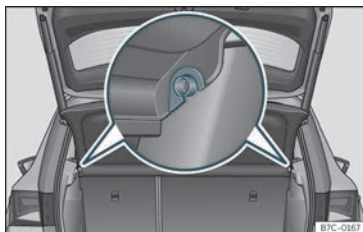

Fig. 105 In the luggage compartment: removing and fitting the shelf.
- Remove the rear shelf from the side supports >>> **Fig. 105** by pulling it upwards and then take it out.
- Insert the cover horizontally so that the “recess” fits onto the axis of the supports >>> **Fig. 105** and press down until it engages.